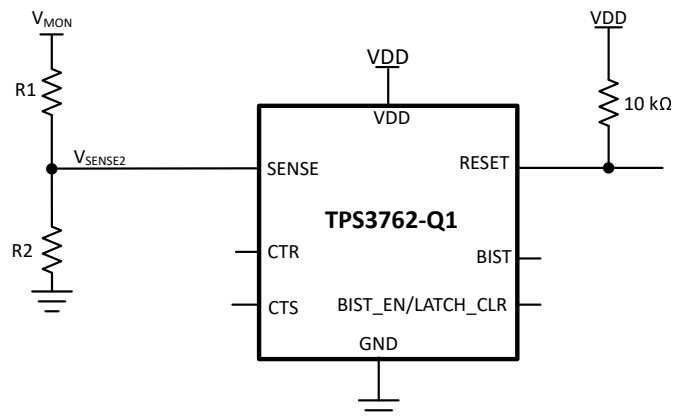

図 9-1. Adjustable Voltage Threshold with External Resistor Dividers
For example, consider a 12 V rail being monitored V_{MON} for overvoltage (OV) using of the TPS3762D02OVDDFRQ1 variant. As shown in 図 9-1, R_1 is the top resistor of the resistor divider that is between V_{MON} and V_{SENSE} , R_2 is the bottom resistor that is between V_{SENSE} and GND, V_{MON} is the voltage rail that is being monitored and V_{SENSE} is the input to the sense pin. The monitored O V threshold, denoted as V_{MON+} , where the device asserts a reset signal occurs when $V_{SENSE} = V_{ITP}$, for this example, $V_{MON+} = 35$ V. Using 式 7 and assuming $R_2 = 10$ k Ω , R_1 can be calculated shown in 式 8 where I_{R1} is represented in 式 9: